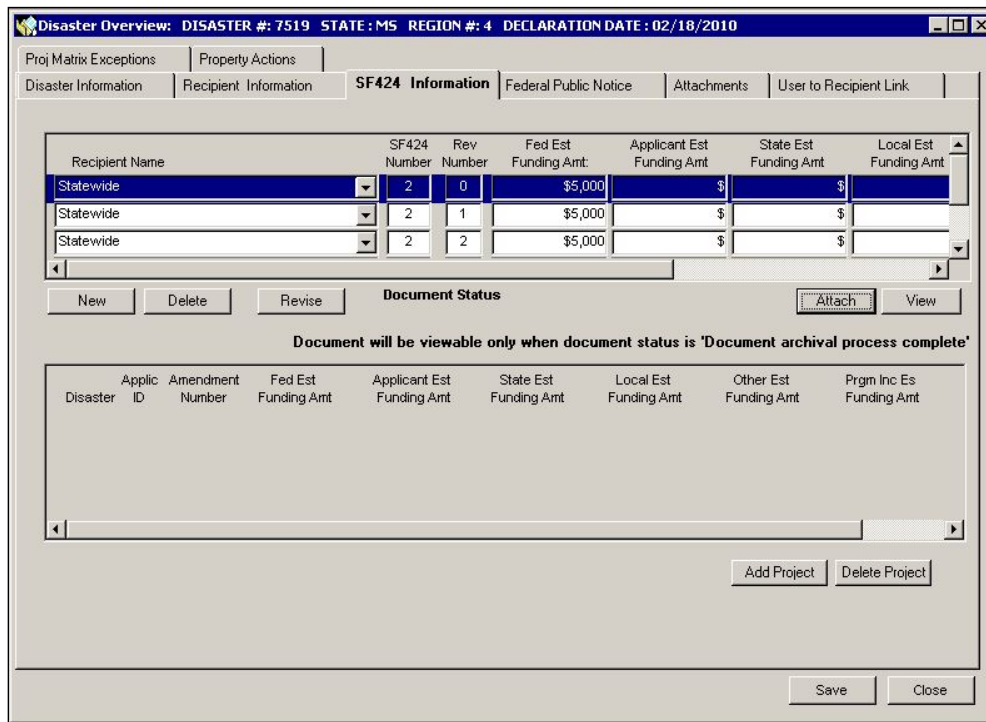

Figure 3-34: SF424 Information Tab - Left Side
1. Click the **SF424 Information** tab (Figures 3-34 and 3-35).